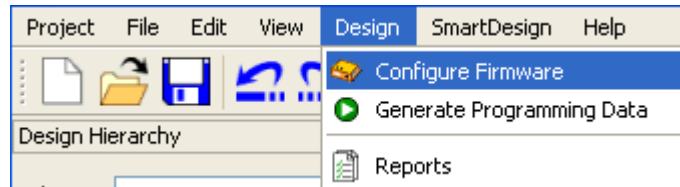

Figure 10 · Opening Design_Firmware
2. Click **Design > Configure Firmware**, as shown in Figure 10 . .